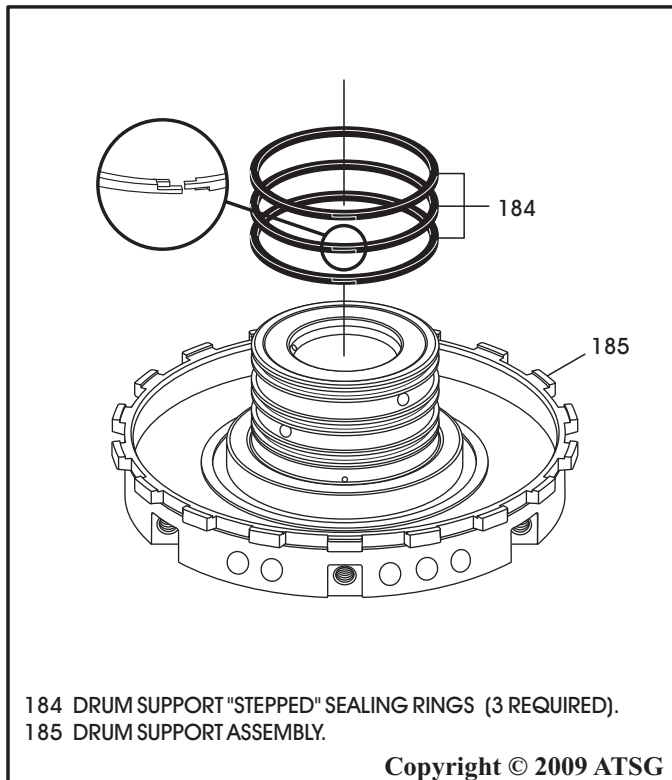

Figure 127
1. Remove and discard the three sealing rings from the support, as shown in Figure 127.
4. Install three new "step-joint" sealing rings into the grooves of the drum support, as shown in Figure 127.
5. Ensure that they rotate freely in the grooves and step joints are properly engaged, as shown in Figure 127.